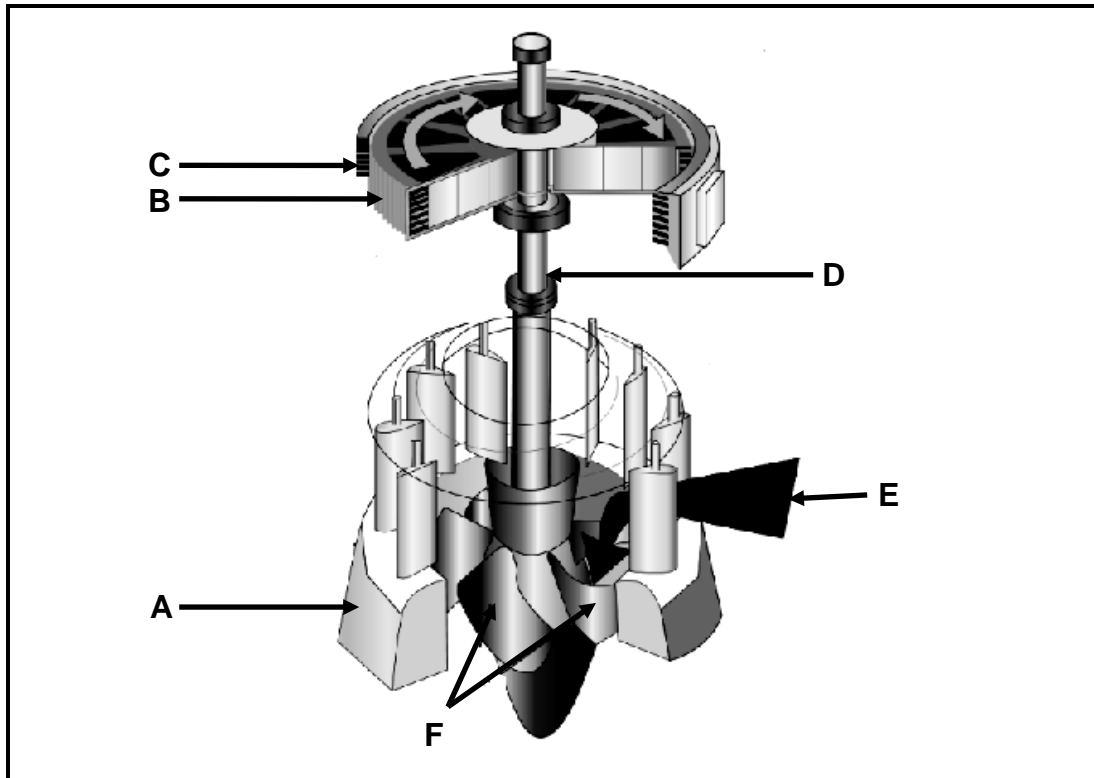

FIGURE 10.1
- 10.2 FIGURE 10.1 shows a water turbine driving a generator. Answer the questions that follow.
- 10.2.1 Identify the type of turbine shown in FIGURE 10.1 above. (1)
- 10.2.3 State TWO advantages of the turbine shown in FIGURE 10.1 above. (2)